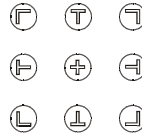

Figure 28: Preset Position Control Keys
- Using the preset position control keys (see Figure 28) on the infra-red remote control transmitter (see Figure 16), which instantly move the position of the zoom to up to nine preset fixed locations¹